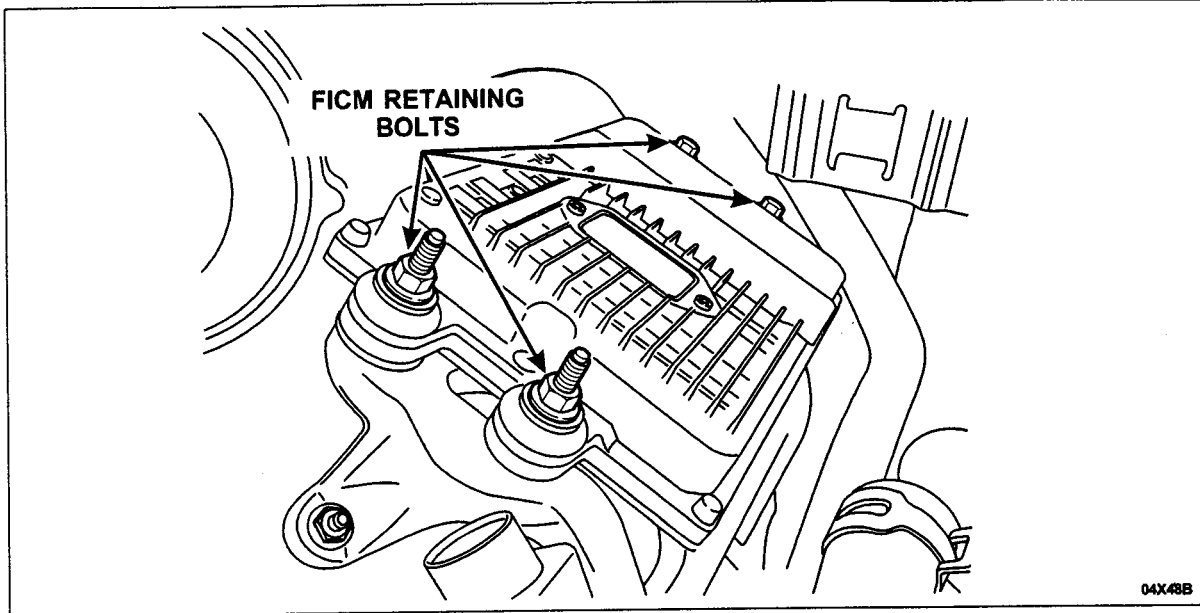

FIGURE 3
7. Remove the four (4) FICM retaining bolts, then disconnect the three (3) harness connectors from the FICM and remove the FICM. See Figure 3.